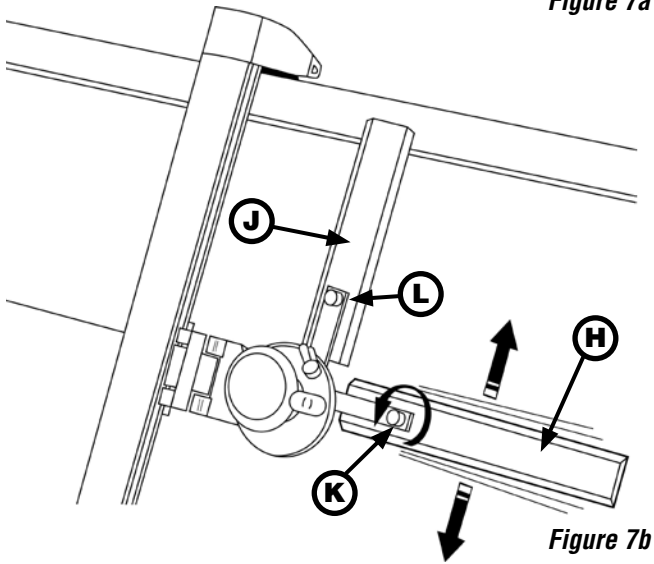

Figure 7b
Align drawing edge (H) with the line already drawn. Do so by loosening knob (K) and tighten it up again once the line is drawn (see Figure 7b).
To align drawing edge (J), loosen knob (L), turn the drawing head by 90°, and tighten the knob once complete (see Figure 7b).